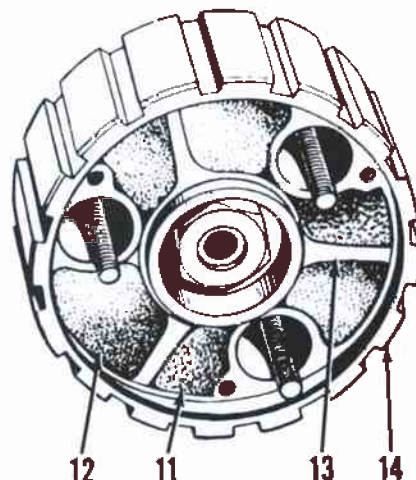

Fig. TM4-28—Clutch cushions should be installed as shown. Use soap if necessary when installing, but do not use oil or grease.
When assembling the shock absorber cushions (11 & 12 Fig. TM4-28), use soap to lubricate rubber cushions and make certain that drive and rebound cushions are on the correct sides of spider (13) as shown. NOTE: Do not use oil or grease to lubricate rubber cush-